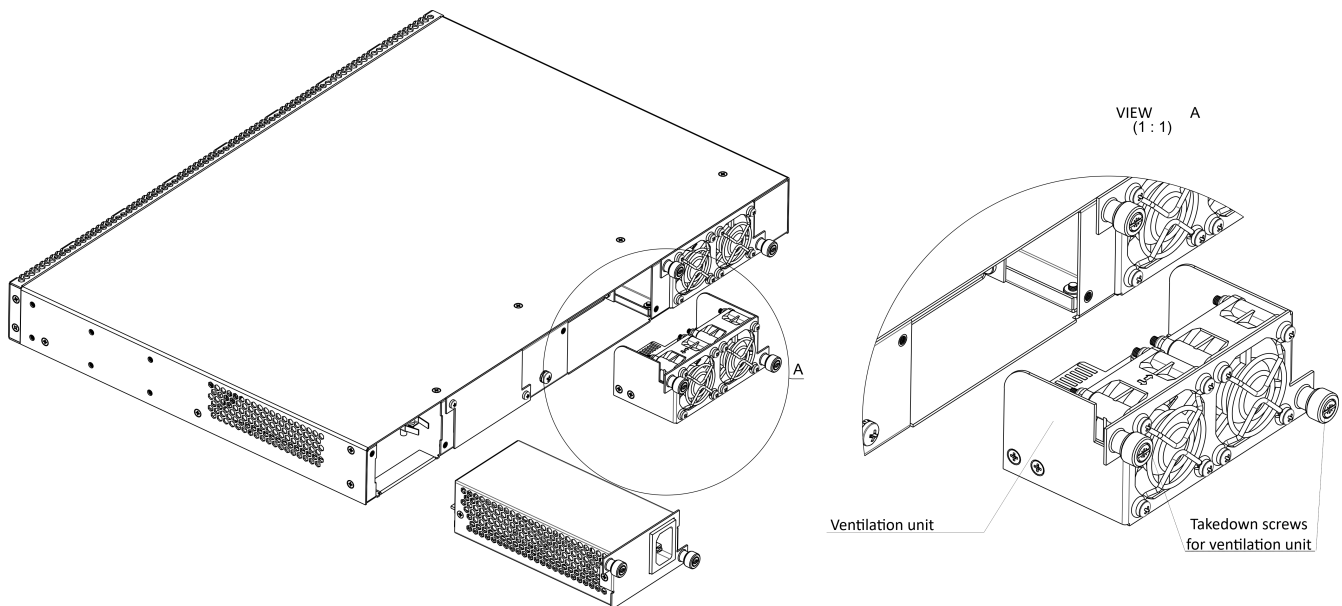

Figure 35 – Ventilation unit. Installation to the case
- **Step 1.** Use a screwdriver to remove the screws for securing the ventilation unit on the rear panel (Figure 35).
- **Step 2.** Fix the ventilation unit on the rear panel with screws (Figure 35).
- **Step 1.** Use a screwdriver to remove the right screw fixing the power supply unit to the rear panel (see Figure 35).
- **Step 2.** Secure the power supply unit to the rear panel with the mounting screws (Figure 35).